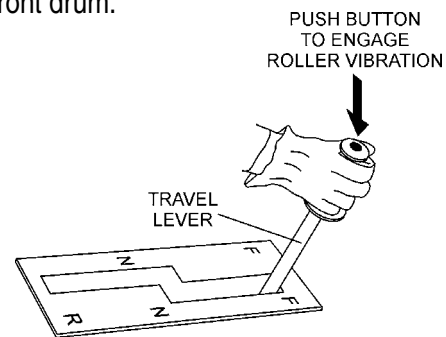

Figure 23. Vibration Pushbutton Switch
1. To begin the vibratory action, press the vibratory pushbutton switch located on top of the travel lever as shown in Figure 23. The pressing of this switch will generate 3,100 lbs. (1,406 Kg.) of centrifugal force at a frequency of 4000 vpm (vibrations per minute) to the front drum.